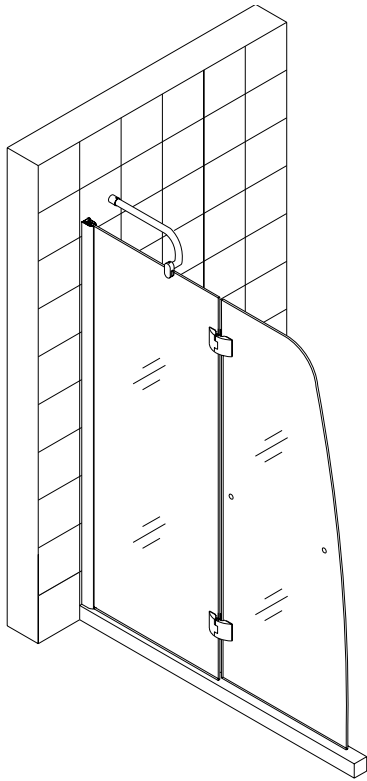

Fig 5
4. Install the **Hinges (04)** on the stationary glass with the decorative non-screw side facing outwards. Hook the **Glass door (05)** from the inside. Perform necessary adjustment to have the top edge of the door in line with that of the stationary glass. See fig. 5 for details.
You will need assistance in this process. Start off by attaching the hinges to the stationary glass. Place the hinge from the outside and screw it in from the inside, do this for the bottom hinge and the top hinge, but start first from the top hinge when you begin to put the door on. Make sure that until both hinges are installed securely, the door does not swing around or lean/bend to any side because that could cause the hinge to snap. After the hinges are installed open and close the door to make sure it's operation is nice and smooth. See Fig 5 for details.